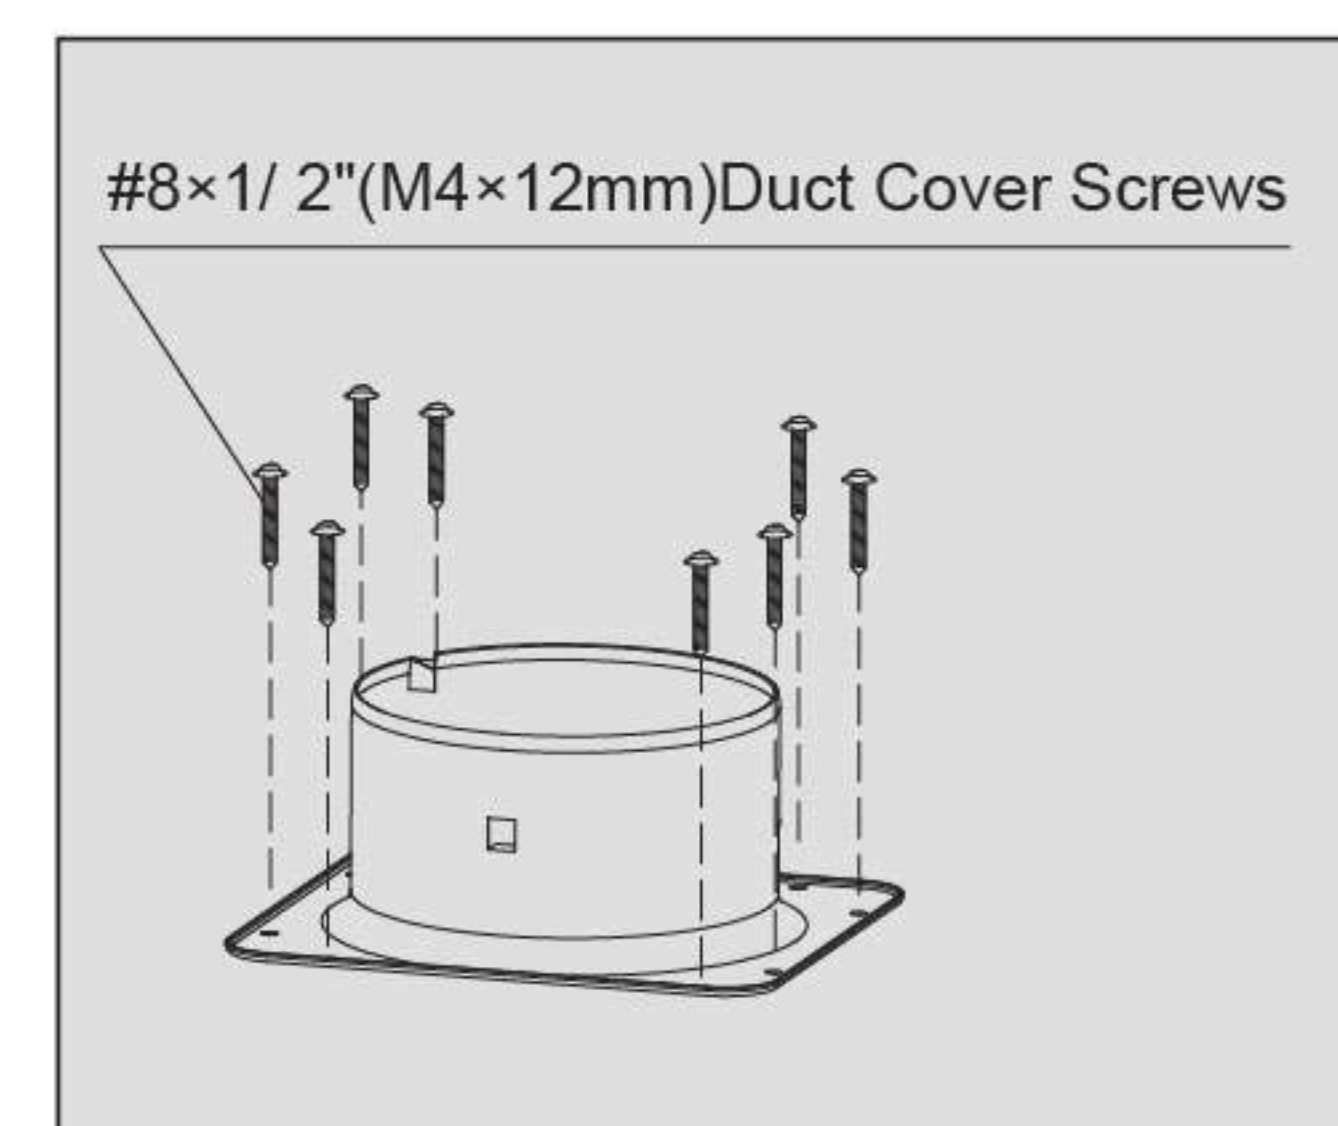

Figure 3
- Refer to Fig 3, use eight  $\#8 \times \frac{1}{2}$ " (M4 $\times 12\text{mm}$ ) Duct Cover Screws to fix the exhaust cover and upper seal mat on the top of complete appliance.